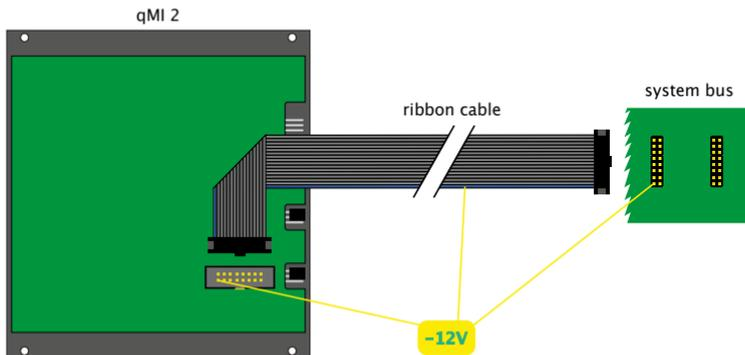

Figure 1: Connecting the qMI 2 to the system bus
3. Connect the ribbon cable's other side to an empty plug-socket of the frame's system bus. **Make sure that the color coded side of the cable points towards - 12V!** (*see"Figure 1: Connecting the qMI 2 to the system bus" on page 3*)